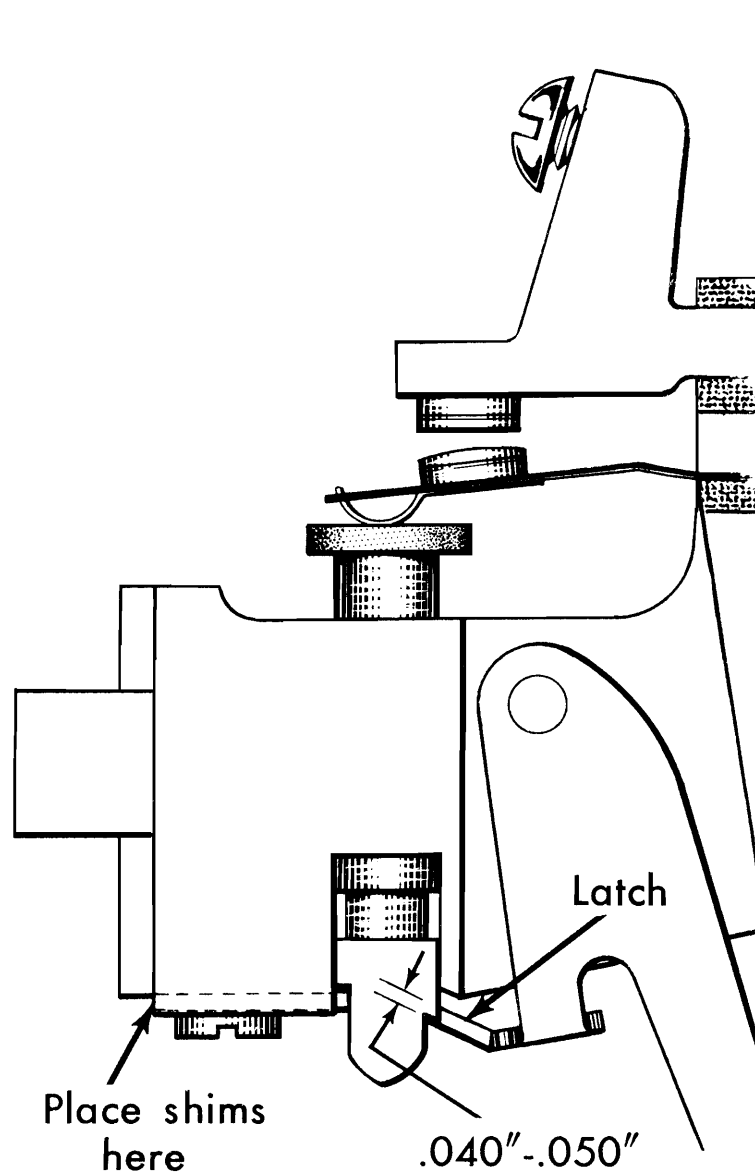

Figure 11. Latching Plunger Circuit Breaker, Adjustment 2
2. Place shims beneath the plunger stop plate as required to obtain a .040" to .050" travel of the plunger before latching up occurs (Figure 11). If the contact plunger is overlapped by the latch by an amount equal to the thickness of the latch metal, this should provide the .040" to .050" travel. When the latch arm is unlatched, a pressure of 45 grams plus or minus 5 grams, applied at the point where the unlatching cam operates against the latch arm should move the latch away from the